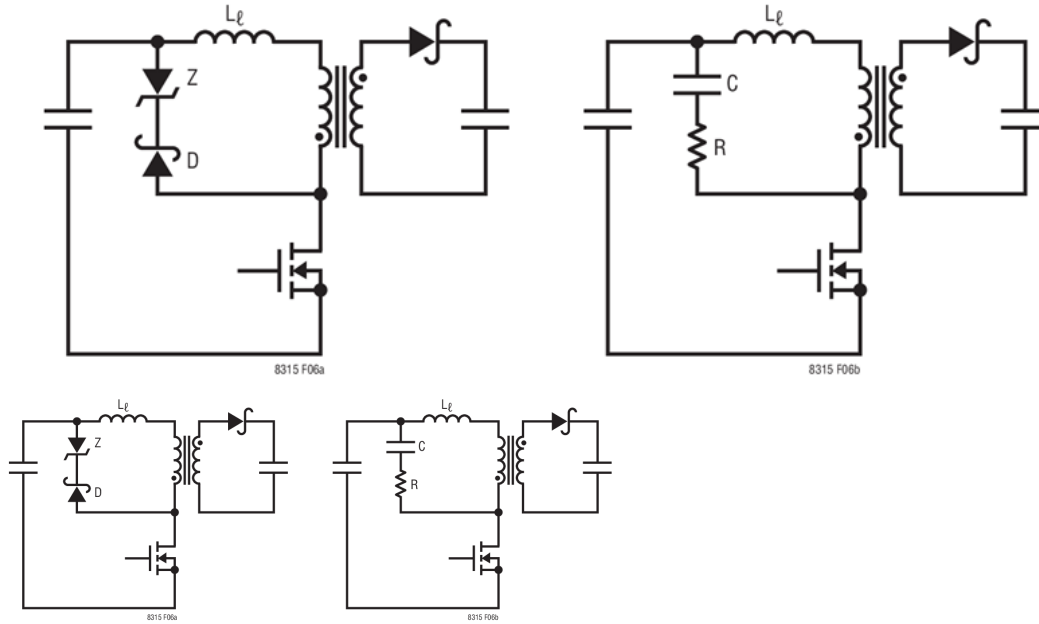

Figure 5. Snubber Circuits
Figure 5 shows two different snubber circuits: a diode-Zener (DZ) snubber and a resistor-capacitor (RC) snubber. A snubber circuit works by absorbing excess energy due to the leakage inductance L_l , thereby protecting the IC from potentially dangerous high voltages or excessive ringing. The DZ snubber ensures a well-defined and consistent clamping voltage and has slightly higher power efficiency, while the RC snubber quickly damps the voltage spike ringing.